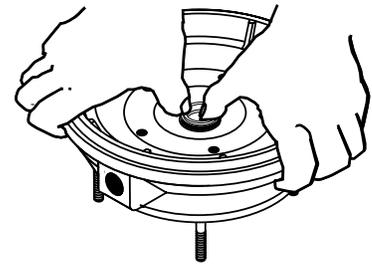

Figure 10
- Put cardboard washer over seal face. With thumb pressure, press ceramic seal half firmly and squarely into seal cavity in seal plate (See Figure 10).